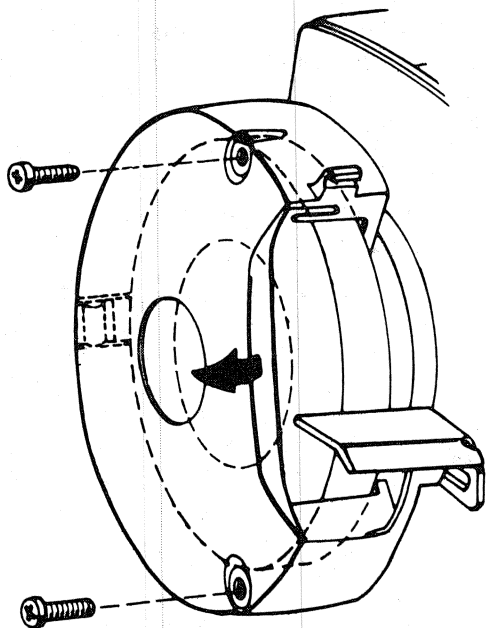

FIG. 3
1. Remove the two screws from the End Cover as shown in figure 3. Swing out the Cover as indicated by the arrow.